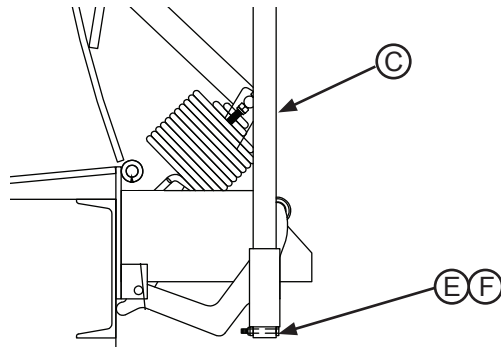

Figure 19
Whenever maintenance is to be performed under the dock leveler, support the dock leveler with the maintenance prop (C). Position the maintenance prop in its support gussets (D). See Figures 19 and 20.